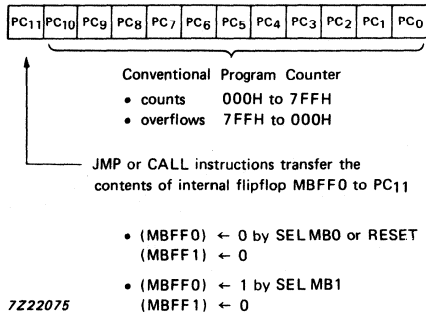

Fig. 20 Program counter.
**Program counter** (see Fig. 20)
The 12-bit program counter is able to address 4 K bytes of ROM. The arrangement of the bits is shown in Fig. 20. During an interrupt subroutine PC11 is forced to logic 0. All 12 bits are saved in the stack during CALL and interrupt routines.